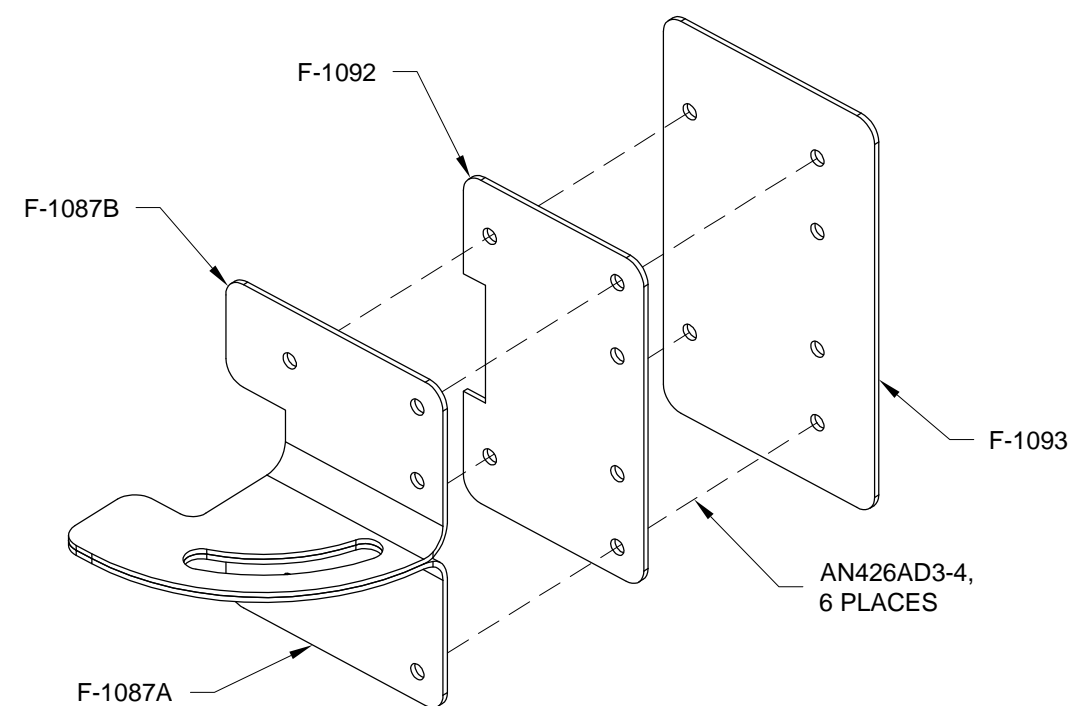

FIGURE 3: ASSEMBLING THE VENT DOOR
Step 2: Cleco the F-1087A Vent Slide, F-1087B Vent Slide, F-1092 Vent Door Doubler and F-1093 Vent Door together as shown in Figure 3. Final-Drill #40 the holes common between these parts. This creates the Vent Door Subassembly. Repeat this step to create a second vent door subassembly.
Step 8: Rivet the F-1087A Vent Slide, F-1087B Vent Slide, F-1092 Vent Door Doubler and F-1093 Vent Door together as shown in Figure 3. Repeat this step to create a second vent door subassembly.